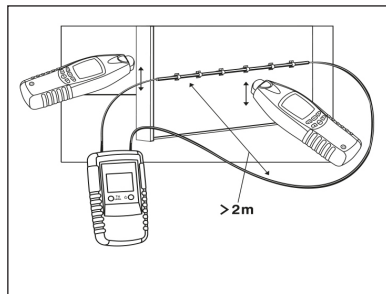

Figure 14:
- Connect the transmitter as shown in figure 14.